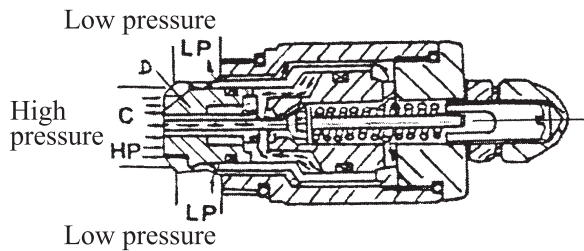

Fig. 7-9
(3) As the pilot poppet “E” is opened. The pressure behind the poppet “C” drops, due to which the poppet “C” is moved to seat on the pilot poppet “E”. As a result of this, the oil flowing behind the relief valve poppet, “D” is shut off and the pressure at the inner side is reduced. (See Fig. 7-9)